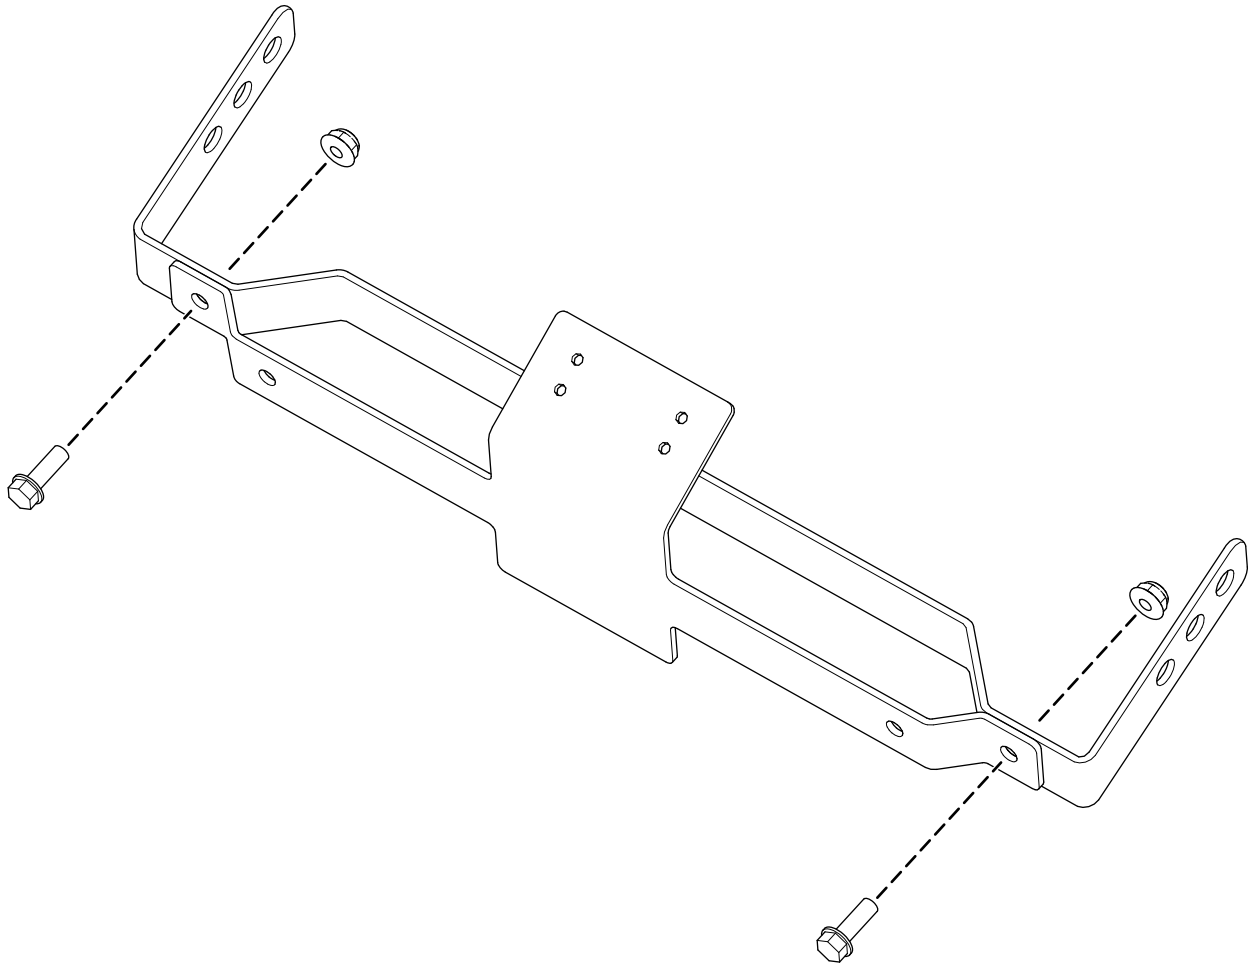

Figure 6
1. Secure the primed mirror mount to the black mirror mount using 2 hex-washer head bolts (1/4 x 3/4 inch) and 2 locknuts (1/4 inch) as shown in Figure 6.